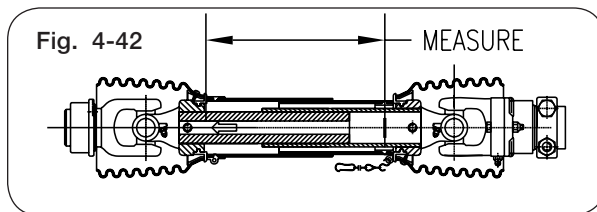

Fig. 4-42
7. Measure the length “L” from the same points as used in step 1. **This distance must be at least 1.5 inches greater than the distance measured in step 1.** If necessary, adjust the length of the PTO shaft by cutting the inner and outer plastic guard tubes and inner and outer sliding profiles by the same length. Round off all sharp edges and remove burrs before greasing and reassembling shaft halves. (FIG. 4-42)